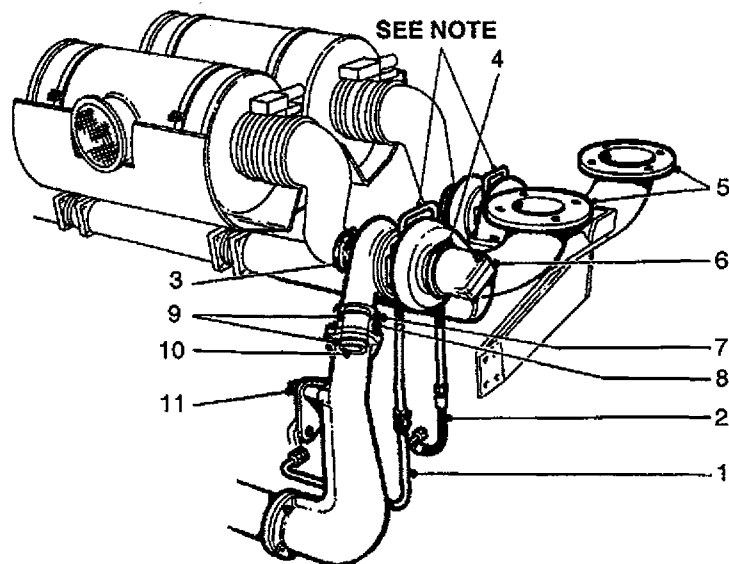

Fig. 2J
Remove the oil feed and drain pipe assemblies (1) and (2) from each turbocharger and plug the ends to prevent the ingress of dirt. Undo the hose clips (3) connecting the turbocharger to the air cleaner. Take off the 'V' band clamp (4) holding the turbocharger to the bellows elbow (5). Fit a lifting sling on the turbocharger inlet and outlet connections to take the weight of the turbocharger. Remove the four bolts, nuts and washers from the turbocharger exhaust elbow (6) and the 2 screws (7) from the tie bracket (8) fixing the turbocharger to the air pipe. Remove the 6 bolts in the air pipe flange. Disconnect the air pipe from the support bracket (11) and withdraw the air pipe (13) from the engine. Lift the turbocharger off the exhaust elbow. Repeat for the second turbocharger. (see Fig. 2J).